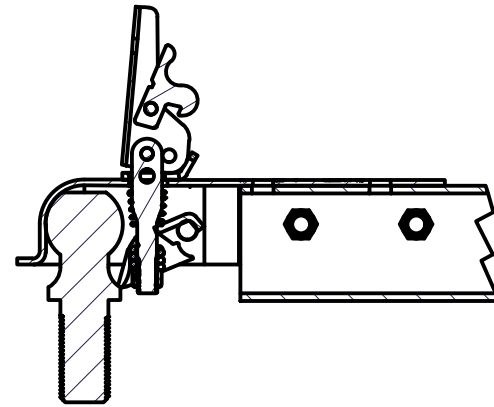

FIGURE 6:
4. Lower the coupler over the hitch ball until ball is fully seated into the ball pocket of the coupler (See Figure 6).